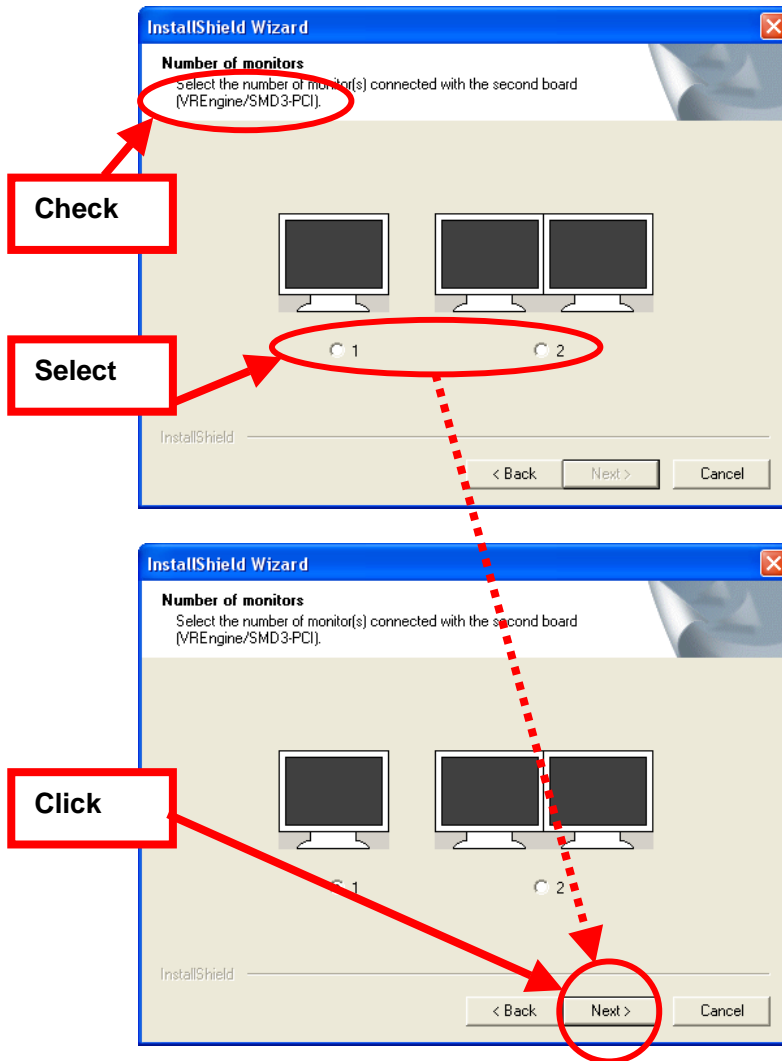

Fig. 10 Select number of monitors dialog
- The Number of monitors dialog in Fig. 10 will appear. Confirm the board type has been correctly detected, select the number of monitors connected to the board, and click the Next button.